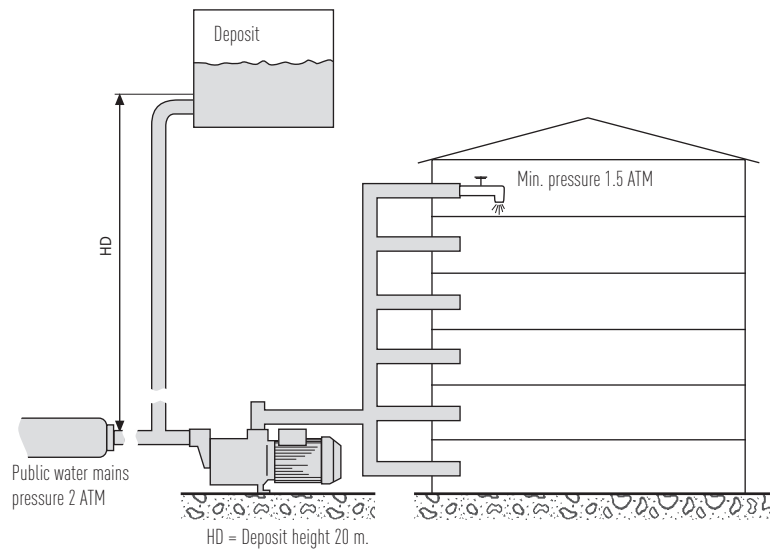

Fig. 3
Case (B) Starting as per case A, after which the specific pressure of the aqueduct or that generated by the drop from the deposit is subtracted from the obtained value. (See example in Fig. 3)